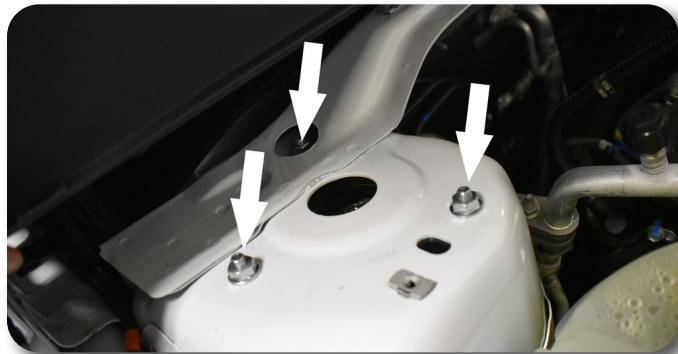

Figure 9
14. With the spacer installed on the strut install the strut assembly into the vehicle using the provided 5/16" washers and prevailing torque nuts Figure 9. Torque the strut mounting nuts to 26 ft-lbs.